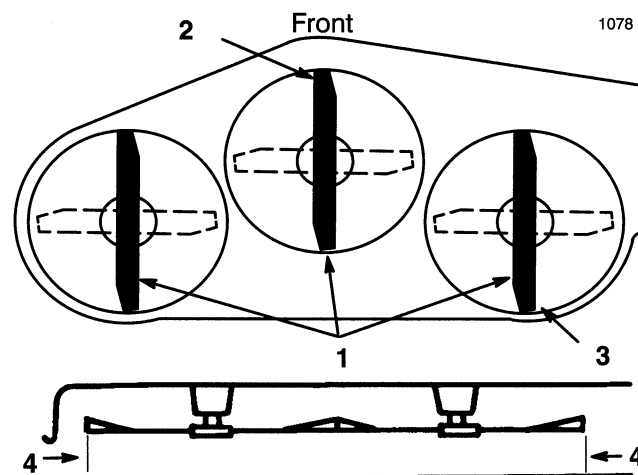

Figure 13
4. Move the height-of-cut lever (deck lift) into the "C" notch and carefully rotate the blades so they are facing front to rear (Fig. 13).
5. Measure between the tip of the front blade (Fig. 13) and the tip of the rear blade to the flat surface. If the front blade tip is not 0-1/8" (0-3.2 mm) lower than the rear blade tip an adjustment front mower mounting plate at axle (Fig. 13).